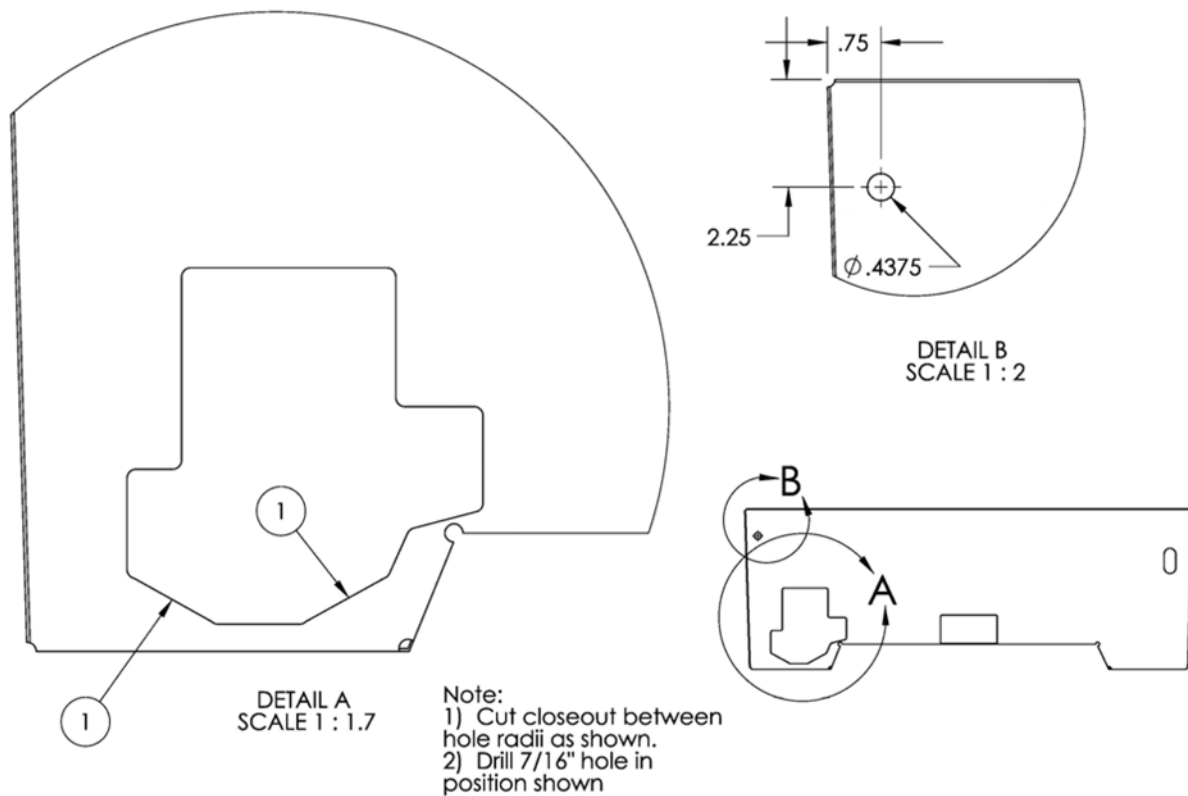

Figure 1 – Closeout Panel
- (a) Modify the closeout panel (figure 1) by drilling one 7/16" hole for the new static source (note 2) and modifying the closeout opening for the differential pressure switch (note 1).